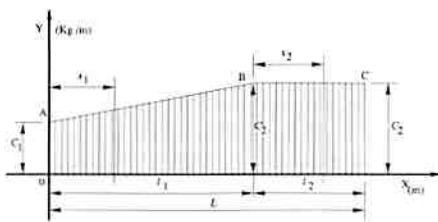

Figure 9-7
**Rectangular-tapered cantilever wing.** Finally, let us consider a wing with a rectangular center section and an outboard section tapered to the wing tip. See loading diagram in Figure 9-7.